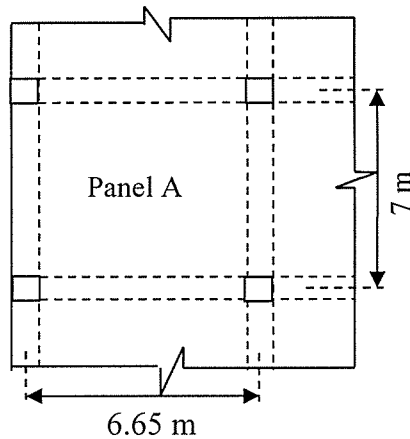
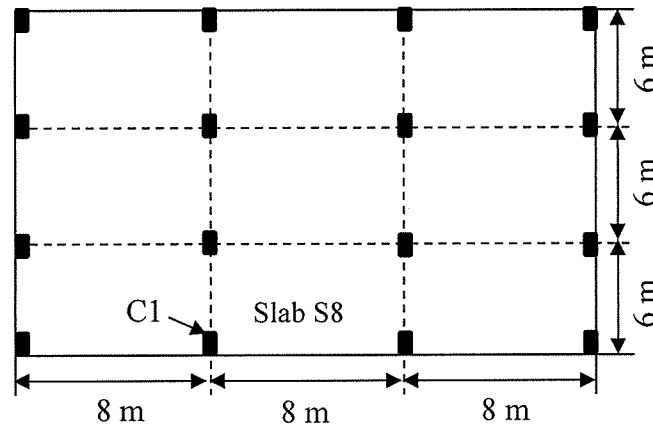

Figure 1. Side slab panel
Figure 2. Flat slab floor plan
- a. The side panel of beam supported slab (as shown in **Figure 1**) of warehouse is subjected to floor live load of 6 kN/m^2 . Thickness of the slab is 165 mm . Apply the design concept to obtain the reinforcement of slab for **long span support moment** (negative) only. Assume required data to design the slab. Coefficient for long span negative moment of the slab is **0.056**. [18 Marks]
The floor layout plan of an 8-storeyed office building (live load 2.4 kN/m^2) is shown in **Figure 2**. The floor of the structure is flat plate (flat slab), and it carries 2 kN/m^2 dead load due to random wall. Design the **column strip** of the **slab panel "S8"** (**long span only**) as shown in **Figure 1** considering safety and environmental issues. Positive and negative moment coefficients of the panel are 0.35 and 0.65 , respectively. Synthesize (optimize) the thickness of the slab as per deflection of ACI / BNBC code for that particular panel only. Assume required data to design the slab. [18 Marks]